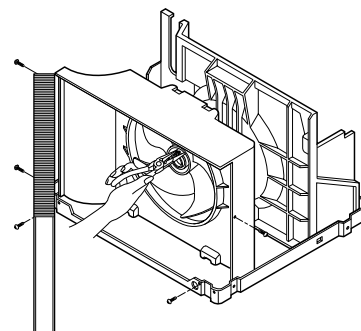

Figure 17
6. Remove the fan. (See Figure 17)